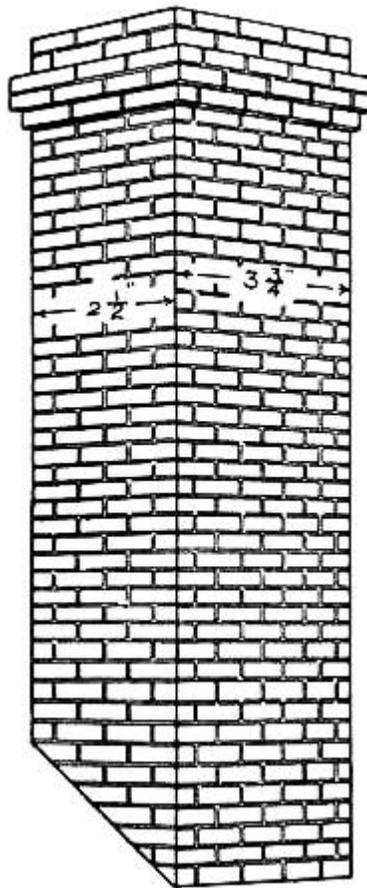

FIG. 103.
**The Chimney** is made the same as those for the other house, with the exception of the cap, which is built up of strips of cigar-boxes to represent corbelled brick (see Fig. 103). These strips should be